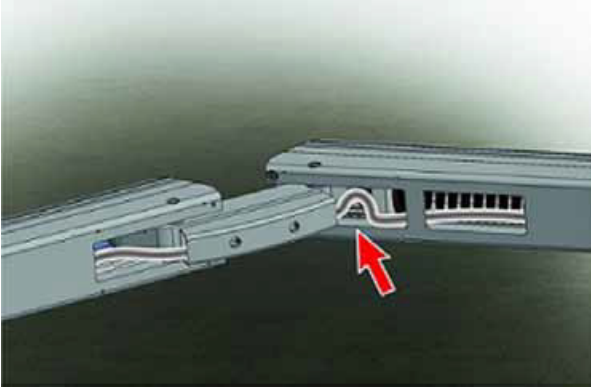

Figure 71
- Keeping the vertical arm in vertical position and horizontal arm in horizontal position, route the cable inside the horizontal arm such a way that the cable is pushed 20 mm (approx) inside the outer cover as shown in the Figure 71. Make sure that the cables are inserted in between the outer cover and the inner plastic sheet (not visible in picture).